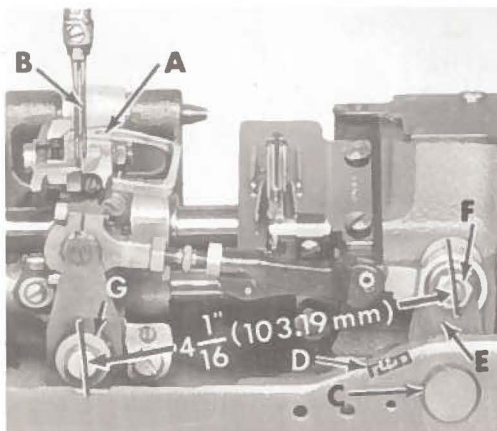

Fig. 5
Insert the looper in the looper rocker and turn handwheel in operating direction until the point of the looper (A, Fig. 5), moving to the left is even with the left side of the right needle (B). Note the height of the eye of the needle with respect to the looper point, then turn handwheel in the reverse direction until the looper point again moves to the left, and is even with the left side of the right needle. If the motions synchronize, the height of the eye of the needle with respect to the looper point will be the same. A variation of .005 inch (.127 mm) is allowable. If the distance from the eye of the needle to the point of the looper is greatest when the pulley is turned in the operating direction move the looper drive shaft synchronizing stud (C) to the rear. Moving it in the opposite direction acts the reverse.
Moving of the looper drive lever shaft synchronizing stud is accomplished as follows: Loosen the clamp screw (D) of the looper drive lever. To move stud to rear (away from operator), a light tap with a small hammer, directly on the stud is all that is required. To move stud forward (toward operator), remove the cloth plate, throat plate support, oil reservoir top cover and oil reservoir back cover, then, a light tap on the looper drive lever rocker shaft, toward the operator, is all that is required. Note: Looper drive lever (E, Fig. 5) has an oil seal collar and an "O" ring between it and the bed casting. All end play must be removed from the looper drive lever rocker shaft by compressing the "O" ring until drive lever (E) and the oil seal collar make metal to metal contact with the bed casting. Tighten screw (D).
tion rod bearing, using gauge No. 21227 CX. Remove nut (F, Fig. 5) and place hole in gauge over threaded stud. The left end of the gauge should locate against the right side of the looper rocker cone (G). If adjustment is necessary, loosen the clamp screw (D) and reposition the looper drive lever (E) as required. Tighten clamp screw. If gauge is not available, setting can be checked with a scale. The distance between the center line of the looper rocker cone and the center and the center line of the looper lever stud should be 4 1/16 inch (103.19 mm) (Fig. 5).